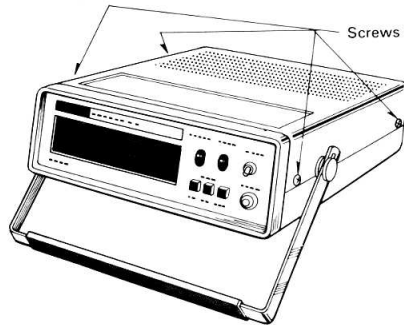

Fig. 4 Removal of Cabinet Case
2. The top and bottom halves of the case can then be separated from the counter by pulling up and downward, respectively (Refer to Fig. 4)